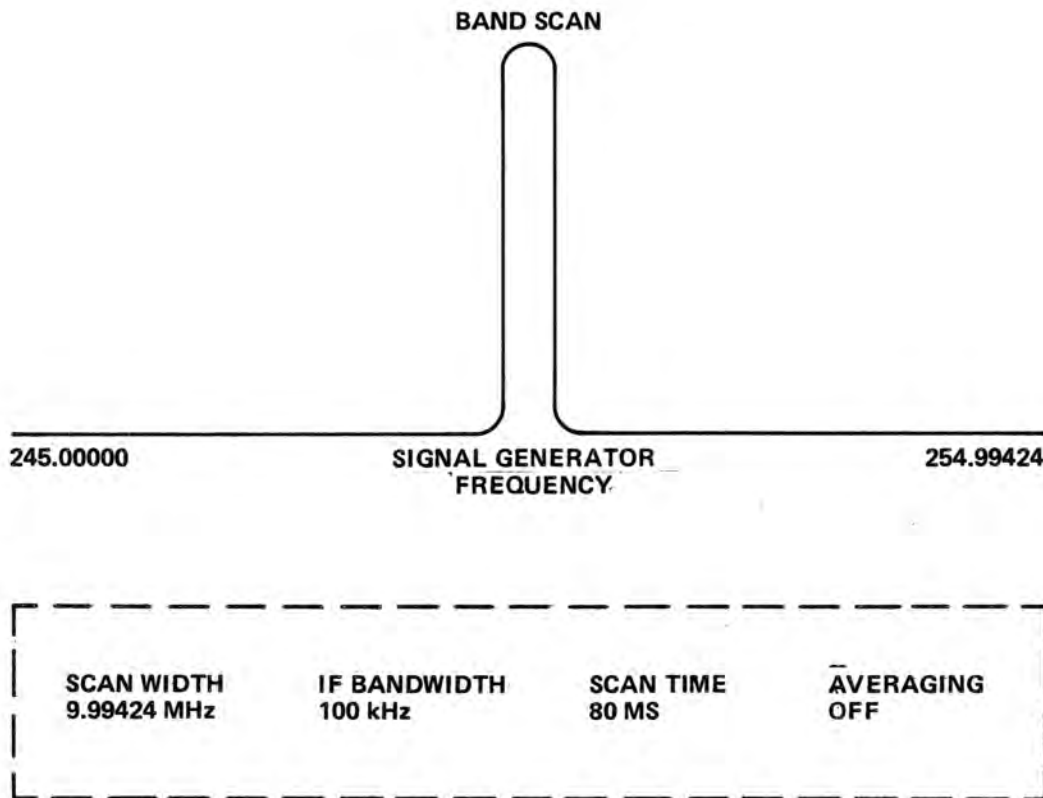

Figure 5-9. Band Scan Display
5. On Controller front panel press BAND SCAN mode key to obtain BAND SCAN mode of operation on Display CRT. The display shown in Figure 5-9 should be obtained by setting the Controller controls for the following parameters: